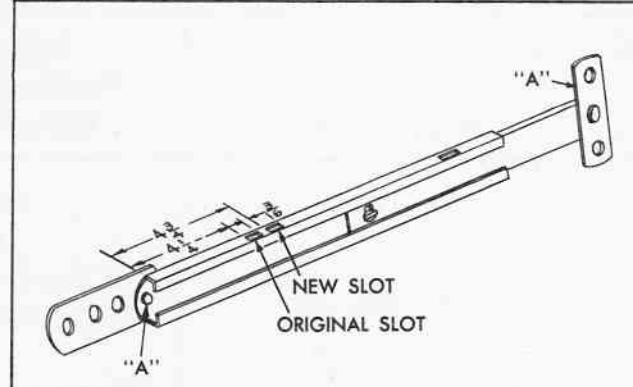

Fig. 8 Location of Slots on First and Second Type Lift Gate Support
3. Check the right lift gate support on all models to determine whether it is the latest type. The latest type support has the horizontal position locking slot located 4-3/4" from the lift gate end of the channel. On the first type support the horizontal position locking slot is located 4-1/4" from lift gate end of channel. See Fig. 8.